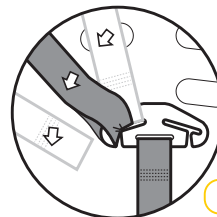

Figure 4
Step 2: Continue to shorten until you have reached the desired position at the rear of the restraint (See Figure 4).
Step 5: The shoulder harness straps go directly from the shoulder slot holes to the spreader plate. Thread each shoulder harness strap back onto the metal spreader plate through the gate (see Figure 4).
Step 3: Push down on the base of the restraint (with knee or hand) whilst pulling the sash section of the vehicle belt firmly up in the direction of the yellow arrow in Figure 4. (This will tighten the lap belt across the seat base). Whilst continuing to pull the sash section up, attach the Safe Grip red belt clamp on the sash section ONLY as close as possible above the buckle tongue assembly. (Refer to Figure 5 and Instruction for installing the Safe Grip red clamp below)